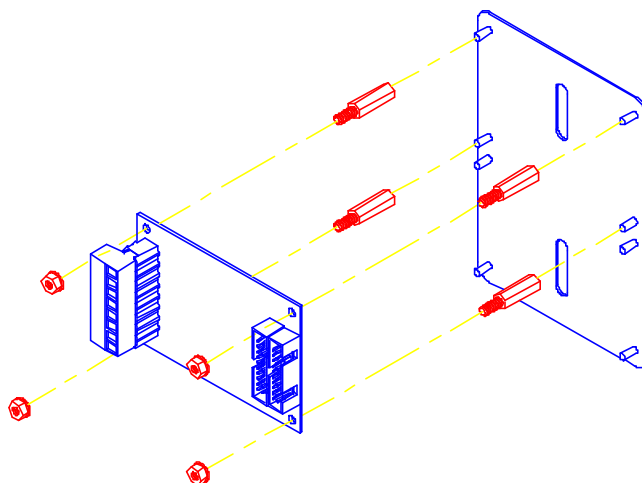

Figure 13-10: Two-Option Mounting Bracket
1. Install the 4 aluminum standoffs included in each 60 Series Option Kit onto the studs on the mounting plate. See Figure 13-10.